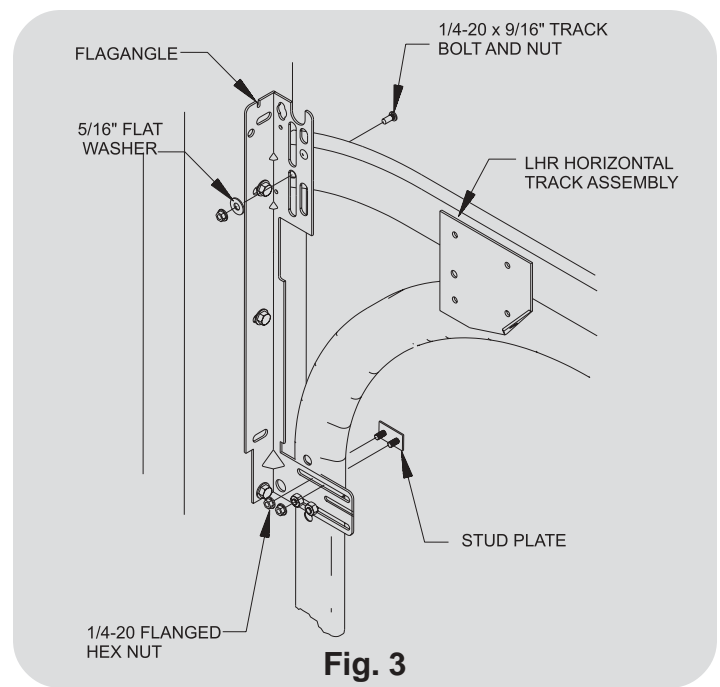

Fig. 3
Place the horizontal tracks over the top of the previously installed vertical tracks as shown in **Fig. 3**. Attach the bottom of the lower curve to the flagangle using (1) stud plate and nuts. Secure the upper curve to the flagangle using (1) 1/4-20 x 9/16" track bolt, 3/8" flat washer and flanged hex nut as illustrated.